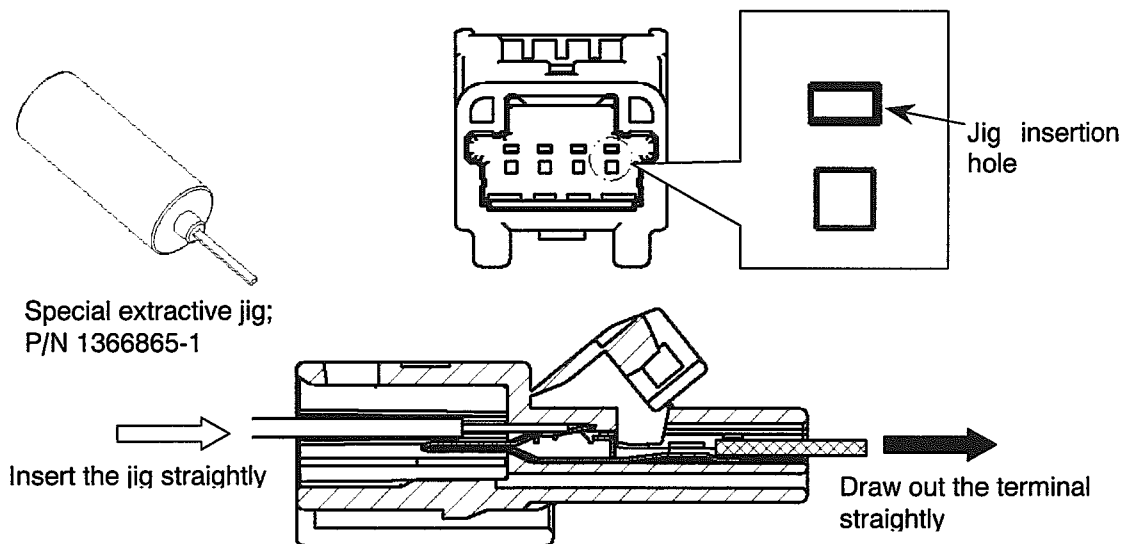

Fig.14
- ① Insert the special extractive jig (Part number: 1366865-1) into the proper hole to the end.
- ② Remove the loaded terminal from housing while the crimped wire. See Fig.14
- (3) Insert the proper female housing straight into the male housing with the direction shown on Fig.14. If the operation is finished, you can hear the click sound and can't insert further. Don't apply excess force, if you can't insert into the male housing, and check the items of (1) and (2).